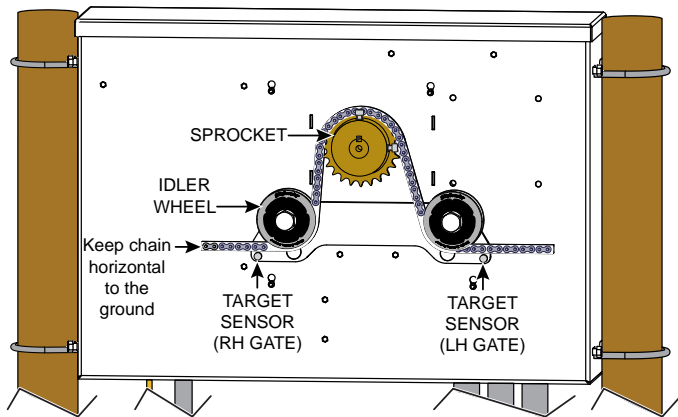

Figure 11. Rear View Chain Installation - Front View
5. Feed the chain around the idler wheels and over the sprocket (See Figure 11) and attach the chain to the bracket on the opposite end of the gate. Make sure the chain is horizontal to the ground and parallel to the gate.
1. For a front installation, feed the chain over the sprocket and beneath the idler wheels. See Figure 11.